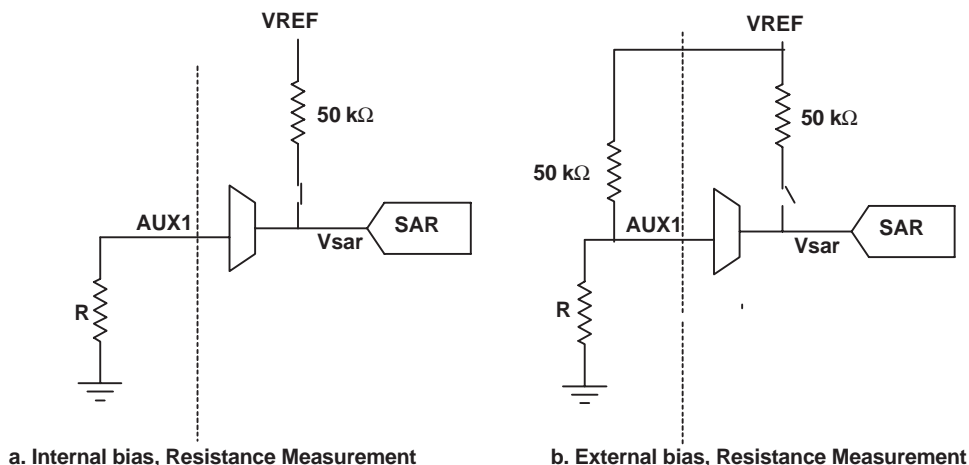

Figure 30. Connection Diagram for Resistance Measurement
The AIC29 provides feature to measure resistance using auxiliary inputs. It has two modes of operation: (1) External bias resistance measurement (2) Internal bias resistance measurement. Internal bias resistance measurement mode does not need an external bias resistance of 50 kΩ, but provides less accuracy because of on chip resistance variation, which is typically ±20%. Figure 30 shows connection diagram for resistance measurement mode on AUX1.